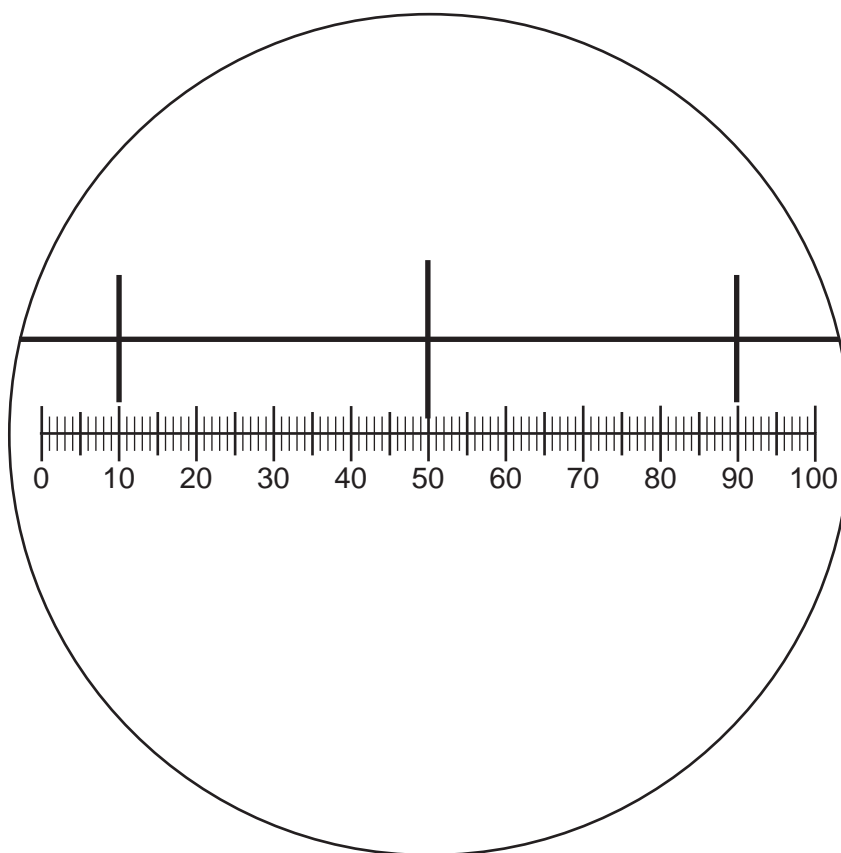

Fig. 2.2
- (c) Fig. 2.2 shows a diagram of a stage micrometer scale that is being used to calibrate an eyepiece graticule.
- (i) Use Fig. 2.2 to calculate the actual length of one eyepiece graticule unit. Show your working.